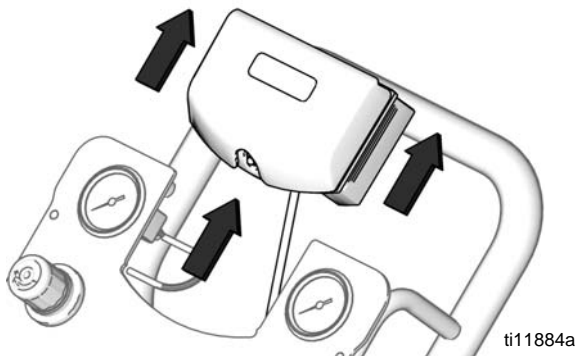

FIG. 11. Remove DataTrak
3. Remove DataTrak module from bracket. See FIG. 11. Take module and attached cable to a non-hazardous location.